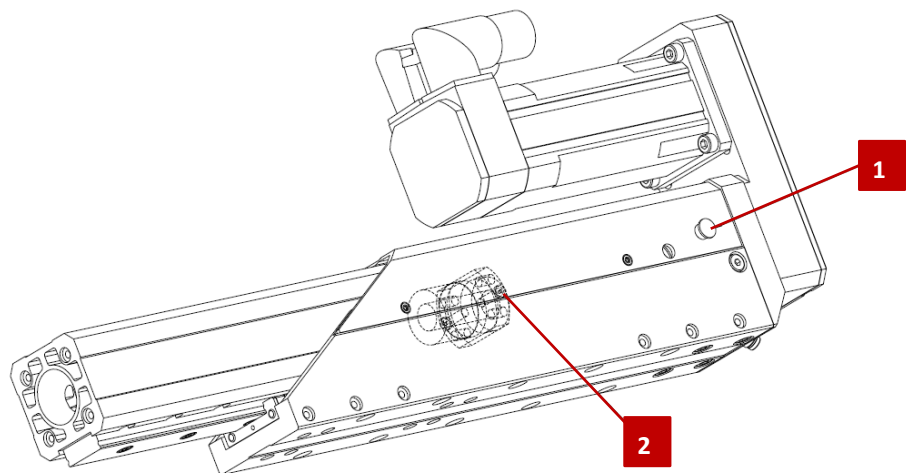

Fig. 13 Telescope spindle axis - grease nipple spindle gearbox
3. Remove the blind plug (Fig. 13, 1) from the spindle cover.